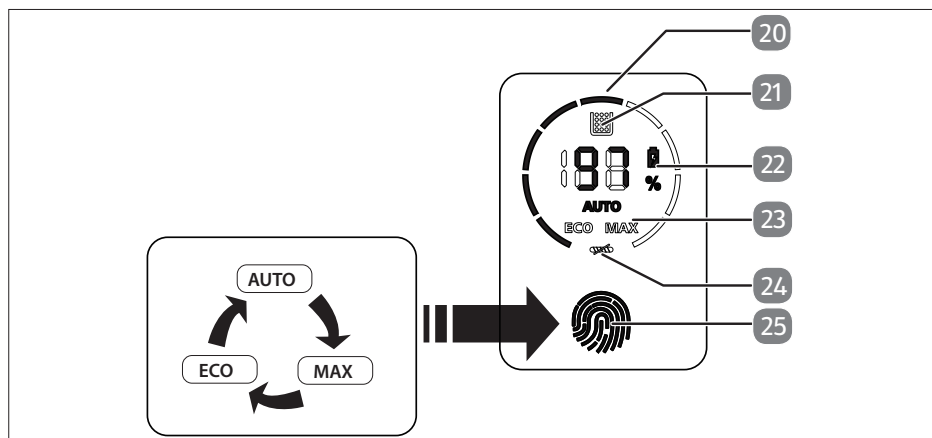

Fig. 2 – Controls
- ▶ Switch on the vacuum cleaner by pressing and holding the on/off switch (26). Lock the on/off switch by pressing the lock button (27).
- ▶ Touch the control field (25) to set the **Auto**, **Max** or **Eco** function mode. The respective motor power is shown in the display (20) (see Fig. 2).